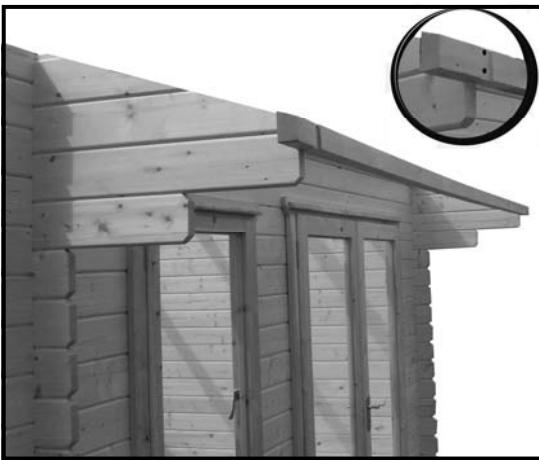

Fig H3
3. The roof edgings have a groove to align them on the gables. Using a roof board to align the roof edging with the slope of the gable Fix the roof edgings to the end of the gables with 2 x 80mm screws at each gable (Fig H3).